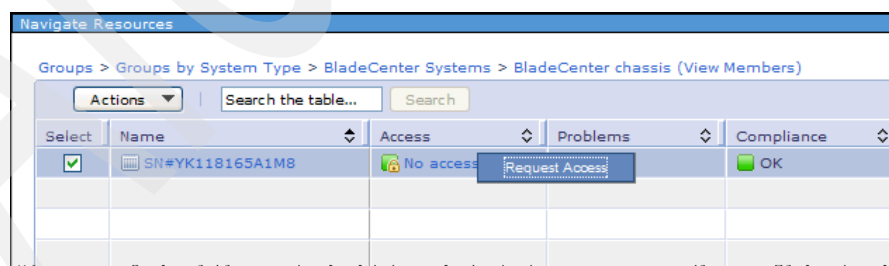

Figure 5-40 Requesting access to Active Energy Manager endpoint
2. Right-click the object in the list and select **Request Access**. Figure 5-40 shows an example of requesting access to the BladeCenter chassis.